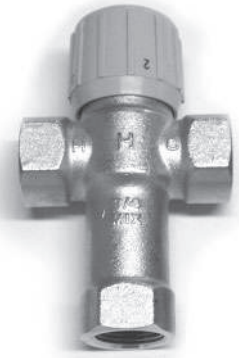

Figure 7 - Thermostatic Mixing Valves installed at each point-of-use can help prevent scalding.
- Point-of-use Thermostatic Mixing Valves (see Figure 7 on page 8).
Install Thermostatic Mixing Valves (Figure 7) to regulate the temperature of the water supplied to each point-of-use (for example, kitchen sink, bathroom sink, bath, shower). Consult the valve manufacturer's instructions or a qualified person.